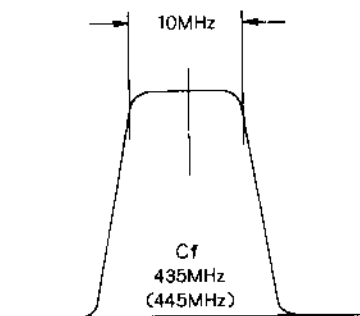

Figure 3
- Adjust TC3001, TC3002 and CV3002 until the scope pattern illustrated in Figure 3 is obtained.